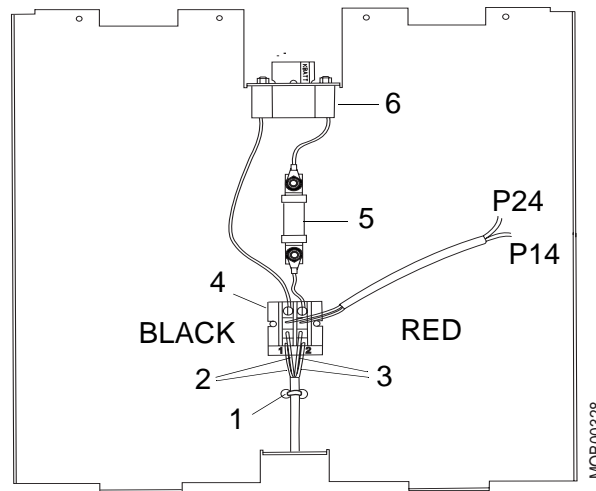

Fig. 5
3. Cut the cable ties on the upper shelf (1/Fig. 5). Disconnect black cables (2/Fig. 5) and red cables (3/Fig. 5) from the connector (4/Fig. 5).
5. Move the fuse (5/Fig. 5), connector (4/Fig. 5) and battery connector (KBATT) (6/Fig. 5) from the old upper battery shelf to the new upper shelf.
**Be sure to connect the red and black cables right (see Fig. 5) otherwise the power conversion unit could be damaged.**
Connect the black (2/Fig. 5) and red cables (3/Fig. 5) to the connector on the upper battery shelf and fasten with new cable ties.